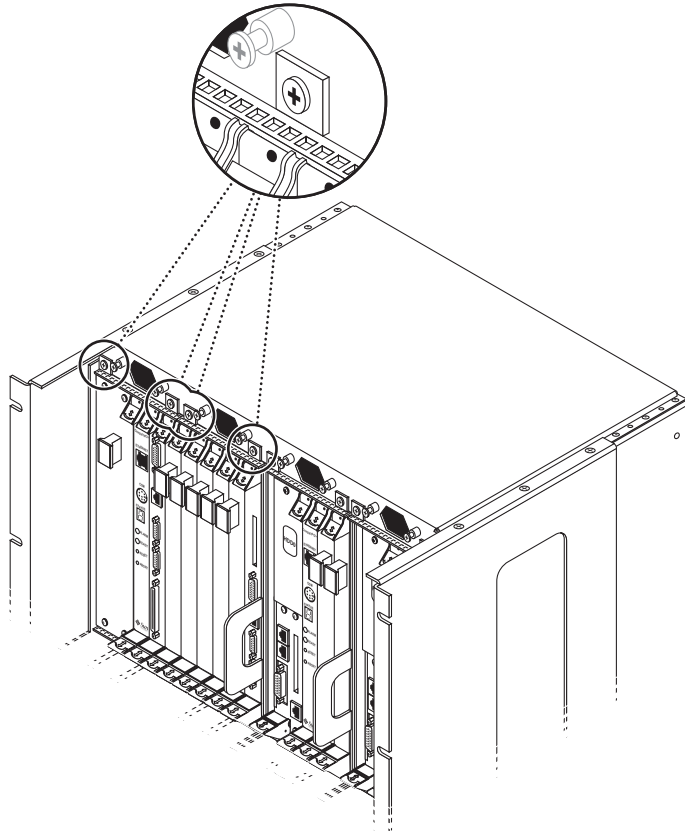

FIGURE 3-3 Loosening the Screws at the Top of a Netra ct 800 Server
- If you are removing a Netra ct 800 server, loosen the *four* black captives screws at the top of the server (FIGURE 3-3).